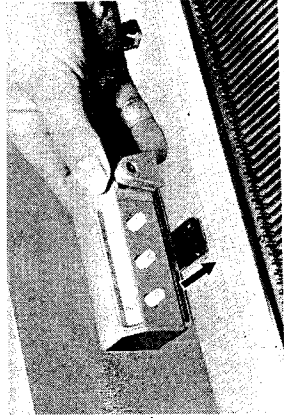

Fig. 15
- i. Set the row counter. Set the row counter into anyone of the 3 brackets on the back of the needle bed. (See Fig. 15)